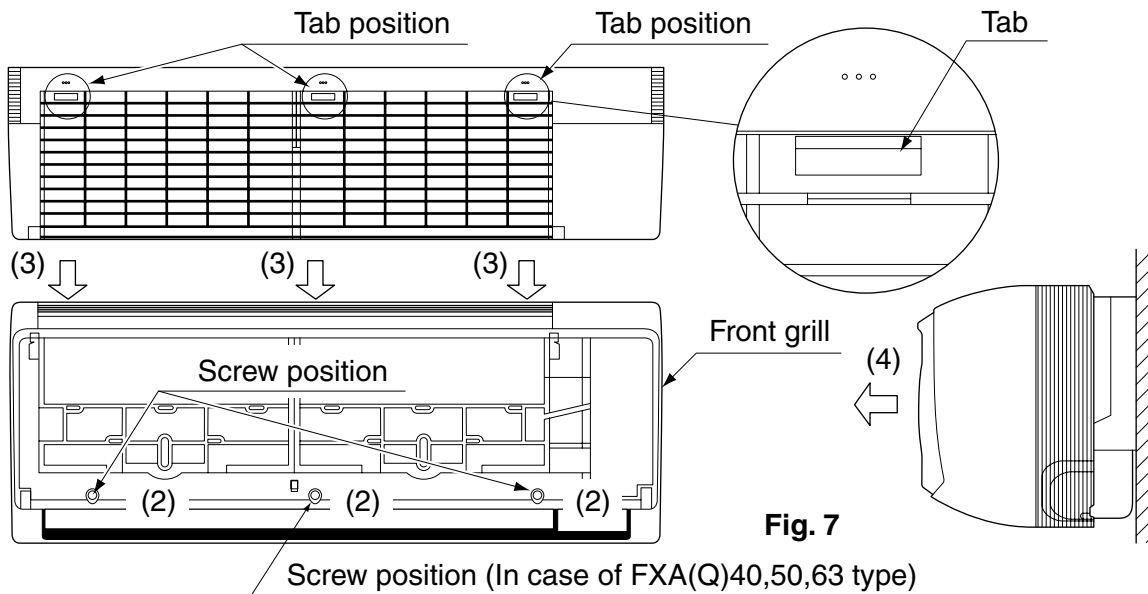

Fig. 7
- Remove the front grill. (Refer to Fig. 7)
- At this time remove the buffering material placed in step (6).